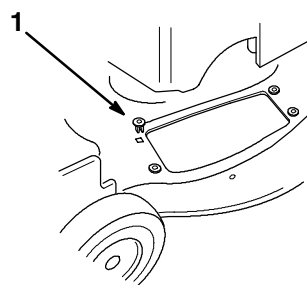

Figure 46
6. Install four grommets supplied with the grass catcher into the four square holes in the lawn mower (Fig. 46).